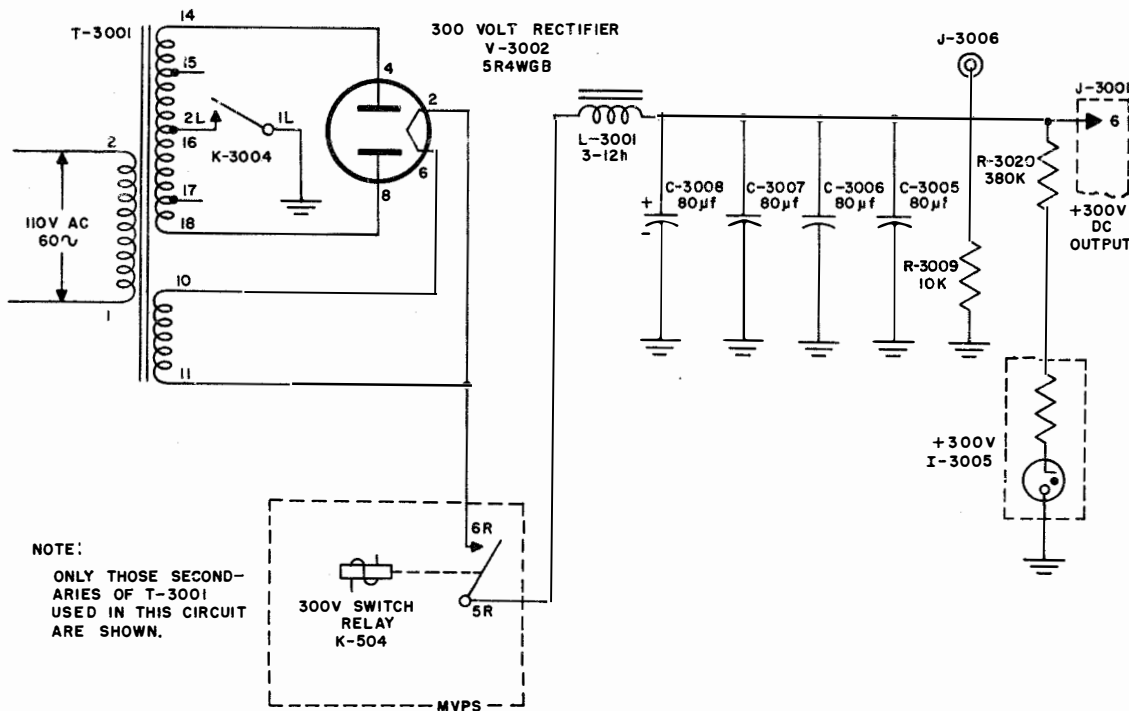

Figure 2-58. +300-Volt D-C Supply, Simplified Schematic
e. +300-VOLT D-C SUPPLY.—The +300-volt rectifier, V-3002 (figure 2-58), is a conventional full-wave rectifier. The plate voltage is taken from terminals 14 and 18 (840 volts rms) on T-3001. Part of this secondary winding is also used for the 250-volt unregulated supply. The supply has a ground return through the center tap terminal 16 and contacts 2L and 1L of K-3004, which is energized when the 30-second time delay runs out. This allows time for the rectifier filaments to reach operating temperature before V-3002 begins to conduct. The rectified voltage is taken from the cathode and is fed to a single choke input filter through the contacts 5R and 6R of 300 V switch relay K-504, which is located in the MVPS. K-504 is energized when the 500-volt supply in the MVPS is energized. As the 300-volt supply is primarily a screen voltage supply and the 500-volt supply is basically a plate voltage supply in the LLRM and RFA, the action of K-504 insures that plate voltage is present when screen voltage is applied, thus preventing damage to the screens of the respective tubes they supply. The single choke input filter of the 300-volt supply consists of L-3001, C-3005, C-3006, C-3007, and C-3008. R-3009 acts as a bleeder for the filter capacitors and also improves regulation. R-3020 is a dropping resistor for the +300 V indicator